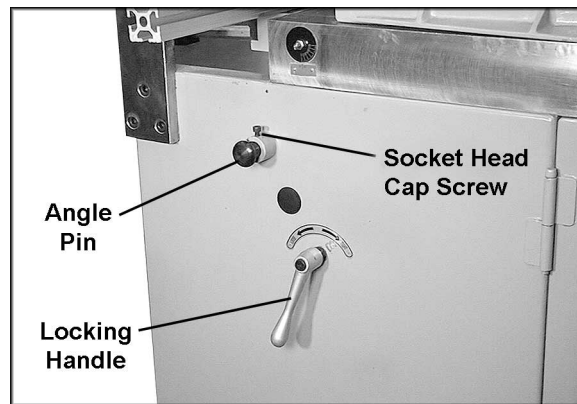

Figure 21
⚠WARNING Make sure the locking handle (see Figure 21) on the side of the machine is tightened before connecting the air, to prevent the boring head from rising suddenly.
2. Loosen the locking handle (rotate counterclockwise) on the left side of the machine frame. See Figure 21.
5. When using the 45-degree stop, always tighten the locking handle (Figure 21).